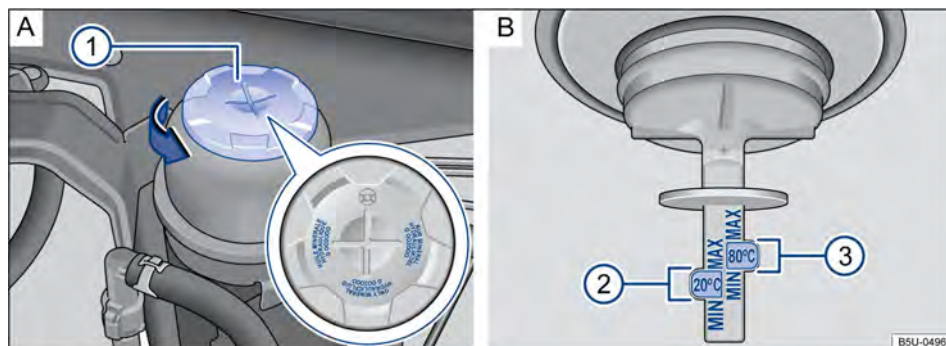

Fig. 84 On the engine compartment: **A** Power steering fluid reservoir. **B** Power steering fluid level control marks.
- Turn the reservoir cap → Fig. 84 **A**   in the direction of the arrow.